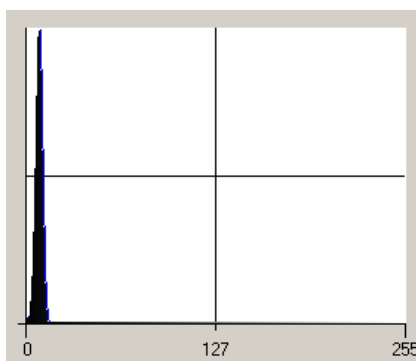

Figure 7: Histogram for a correct black level
4. In the 'Special' tab of PFRremote, change the value of 'Black Level Offset', until the histogram of the black image looks as in Figure 7.